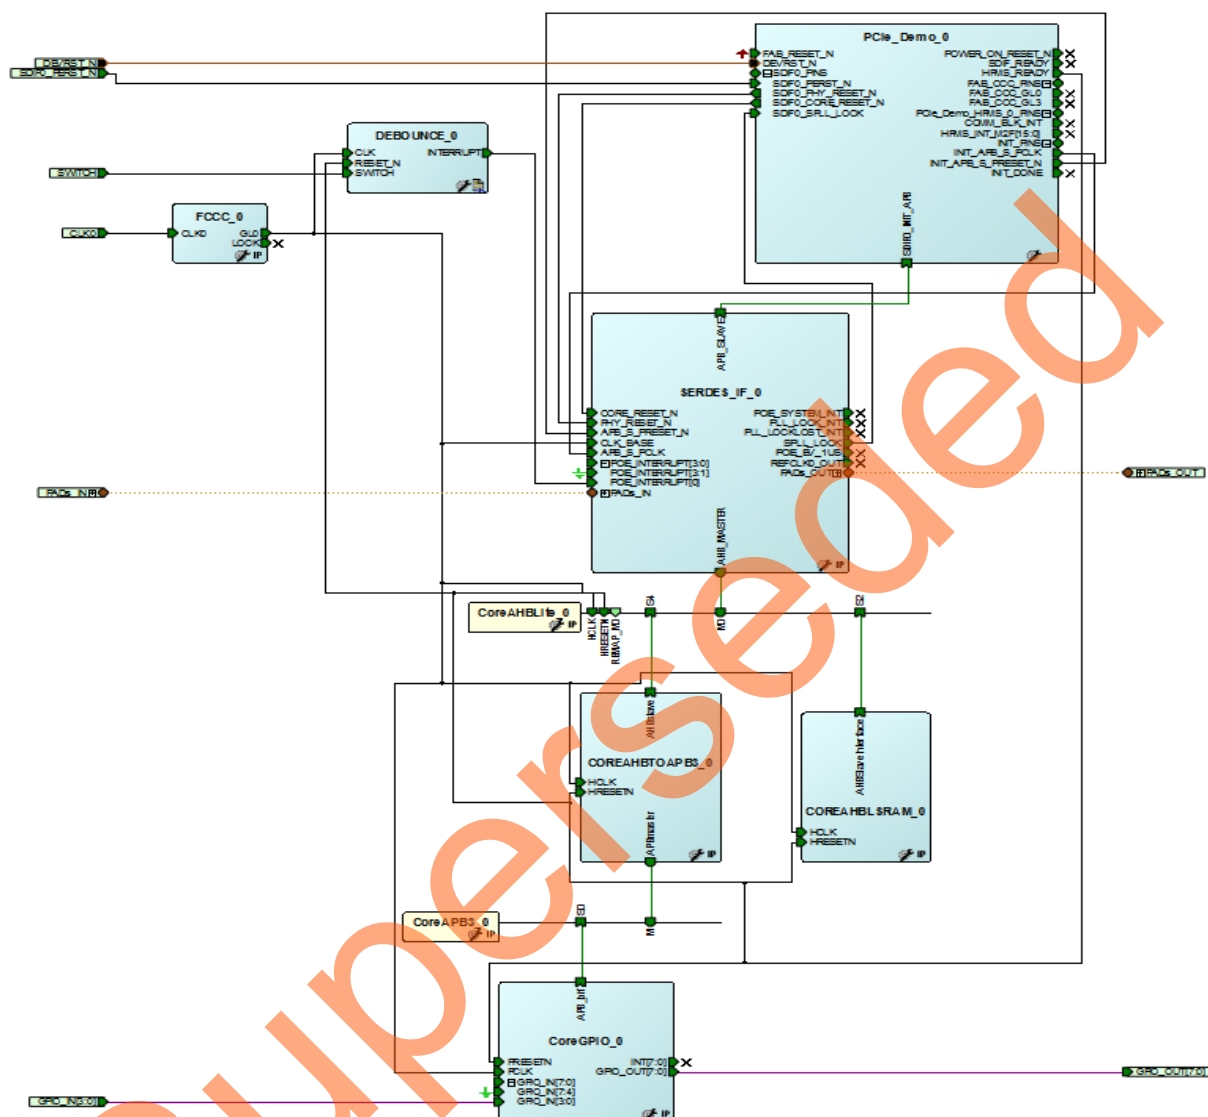

Figure 32 • PCIe_Demo_top Design
33. Click **Auto arrange instances** to arrange the instances and click **File > Save**. The PCIe_Demo_top is displayed as shown in Figure 32.